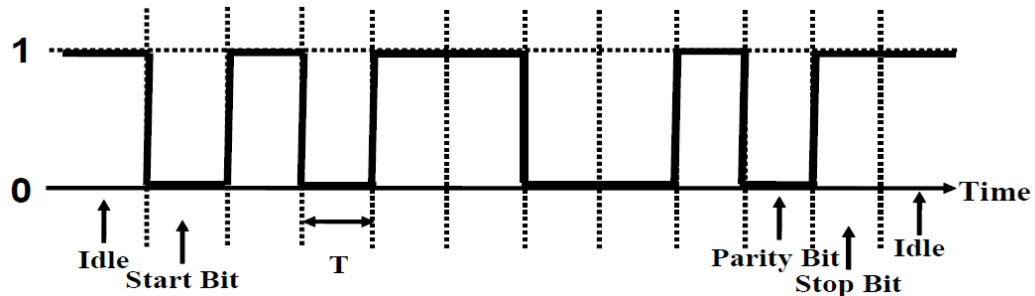

Fig. 2
2) **Fig. 2** shows the logical waveform of an asynchronous data frame.
Answer the following question with reference to **Fig. 2**:
- The value of **T** in **Fig 2**.
- Assume the baud rate of the transmitter is 4800, but the baud rate of the receiver is configured as 9600. Based on **Fig. 2**, determine, if any, the ASCII character(s) that will be received.